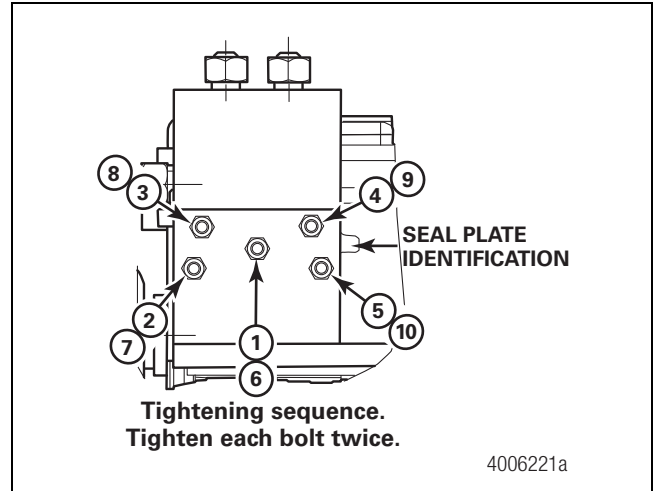

Figure 4.30
1. Place a screw into the center mounting hole of the relay valve. Use a hex-head socket tool for positioning. Place the new relay valve seal onto the relay valve using the screw to align the seal. The orientation should match Figure 4.30. Position the relay valve against the HCU. Thread the screw into the HCU.
3. Use a torque wrench to tighten all five screws to 71 in-lb (8 N•m) following the numbered sequence illustrated in Figure 4.30.